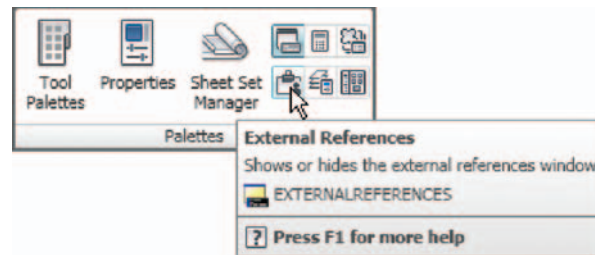
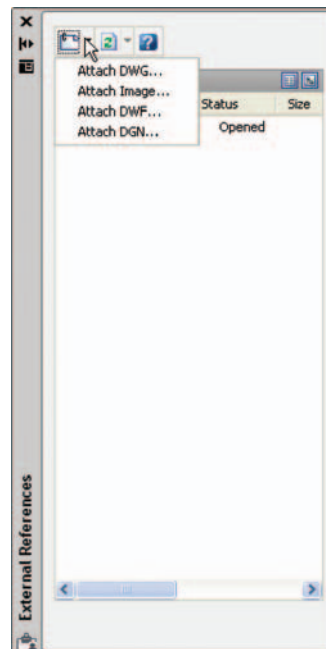

Fig. 10.13 Selecting External Reference from the View/Palettes panel
Fig. 10.14 The External Reference palette
3. Click **External References** in the **View/Palettes** panel (Fig. 10.13). The **External Reference** palette appears (Fig. 10.14).